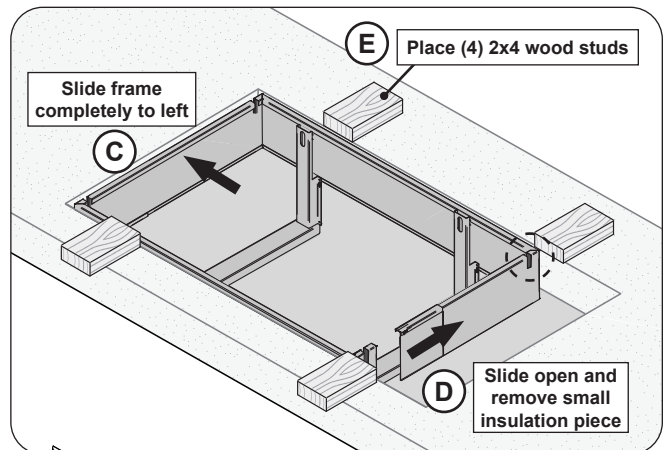

Fig. 3-2 Clearance opening and grill prep
- Slide the insulating liner to the left of the cutout. See Fig. 3-2, C.
- Locate the clearance bracket and remove the bottom screws. Carefully slide the bracket to remove the insulation piece, creating an opening that provides clearance for the flex connectors and igniter wires when the grill is installed. Retain the screws and insulation piece for later reinstallation. See Fig. 3-2, D.
- Place four 2 x 4 wood studs as shown in Fig. 3-2, E. This will add safety and aid with aligning the grill to the liner.